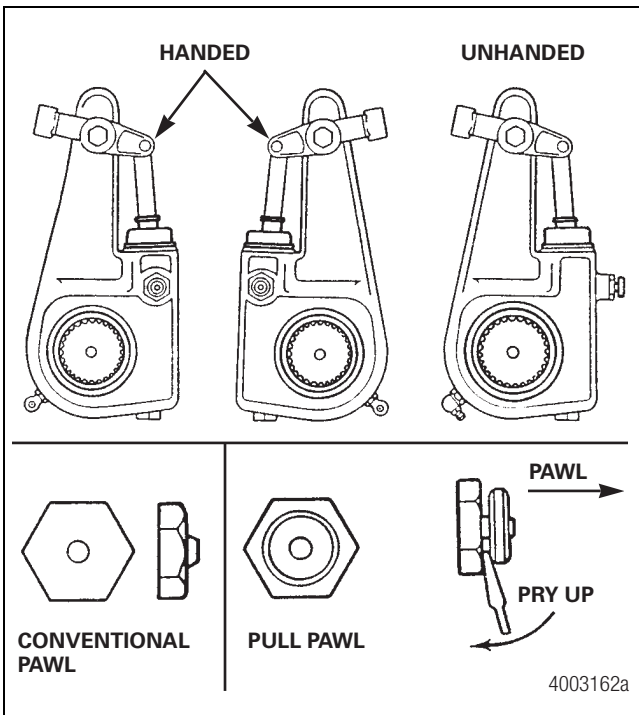

Figure 3.4
6. There are two automatic slack adjuster designs: handed and unhanded. For most applications, install a handed slack adjuster so that the pawl faces INBOARD on the vehicle. The pawl can be located on either side or on the FRONT of the slack adjuster. Figure 3.4.